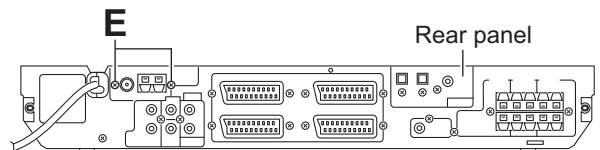

Fig.6
- (2) From the back side of the main body, remove the two screws **E** attaching the tuner to the rear panel. (See Fig.6.)